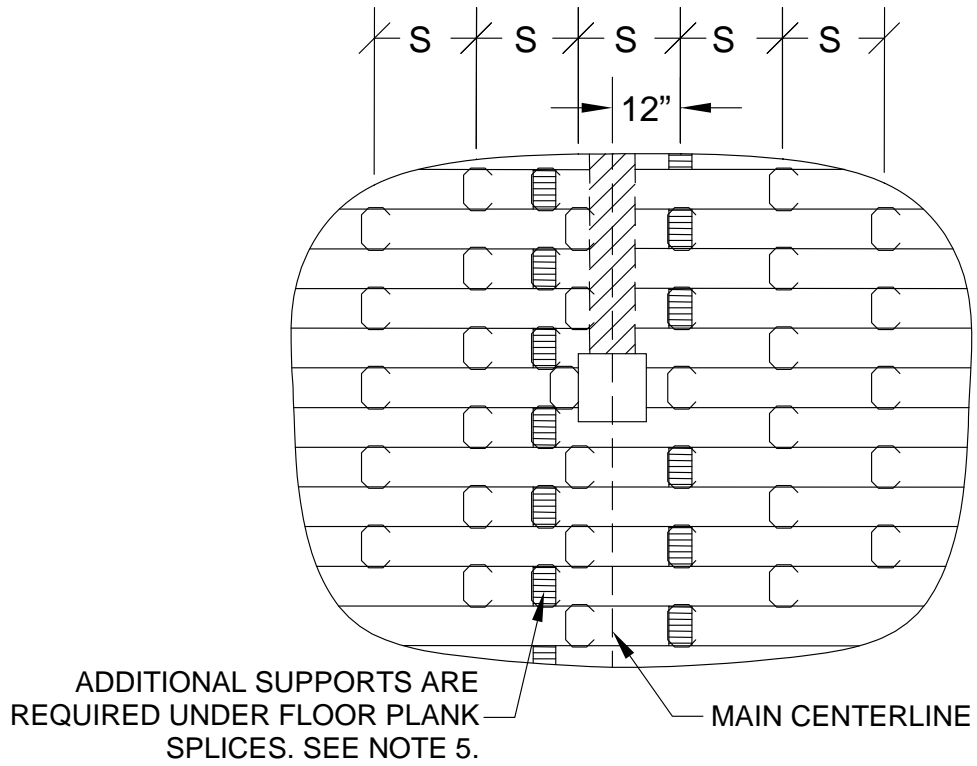

FIGURE 42.2: Support Orientation – 4204 and 4206
2. For bin models 4205 and 4206 mark first chalkline 12" away from one side of main centreline. Mark all other chalklines relative to first chalkline at standard spacing "S" specified in table. See Fig. 42.2.
5. Where floor plank splices do not line up with a chalkline, additional supports are included and must be installed directly under each splice as illustrated in Fig. 42.2.